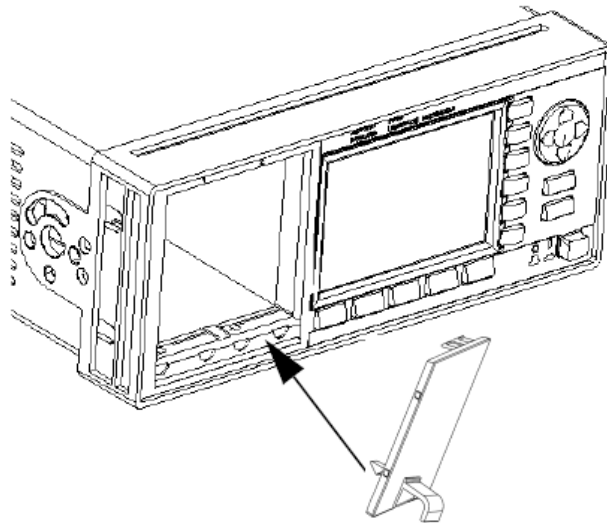

Figure 1 Fitting a Blind Panel
- 1 Position the blind panel as shown in Figure 1 on page -8. Position the end closest to the handle against the bottom edge of the slot.